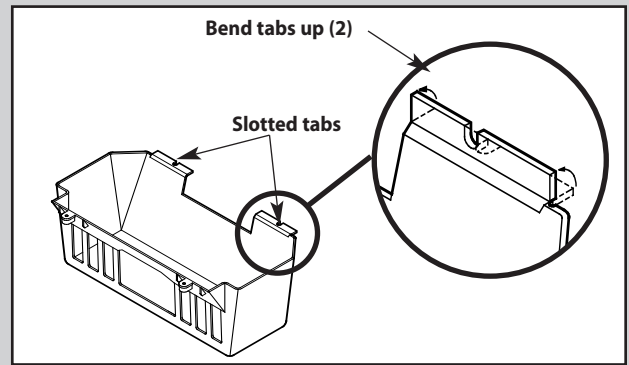

Fig. 11-1
2. **Bend two (2) slotted tabs up. This will activate the "living hinge" of the lens (Fig. 11-1).**